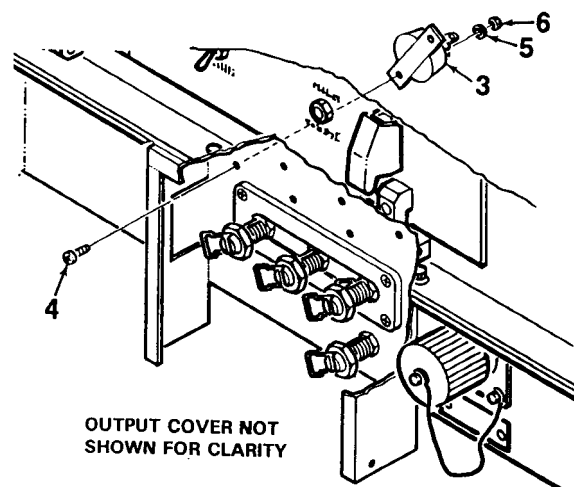

Figure 4-25. Voltage Resistors
2. Turn lock (2, Figure 4-25) and open output panel cover (1).
3. Disconnect electrical wiring from the rear of three voltage resistors (3).
4. Remove three voltage resistors (3) from the back of the output box by removing screws (4), washers (5), and locknuts (6).
1. Mate three voltage resistors (3, Figure 4-25) to back of output box. Secure using screws (4), washers (5), and locknuts (6).
2. Connect electrical wiring to voltage resistors (3).
3. Close output panel cover (1) and engage lock (2).